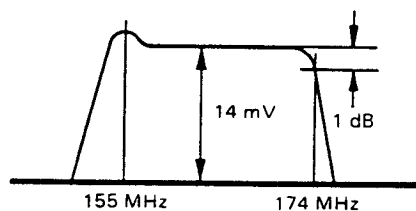

Figure 3
(4) Tune the receiver to 155.000 MHz, set the sweep generator center frequency to 164 MHz, and adjust T8001 - T8005 for the passband waveform shown in Figure 3.
(5) Remove the test equipment and replace pin 5 of P52.